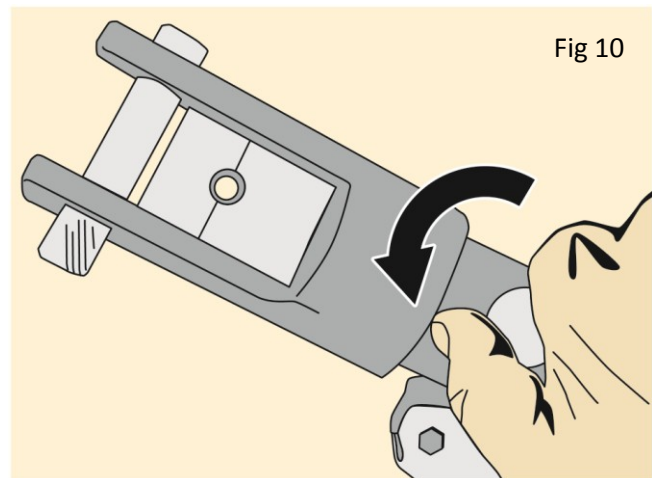

Fig 10
a) Turn the knob on the Cable Crimper counterclockwise to open the jaws and position the fitting 1/8" from the end of the fitting (Fig. 10).